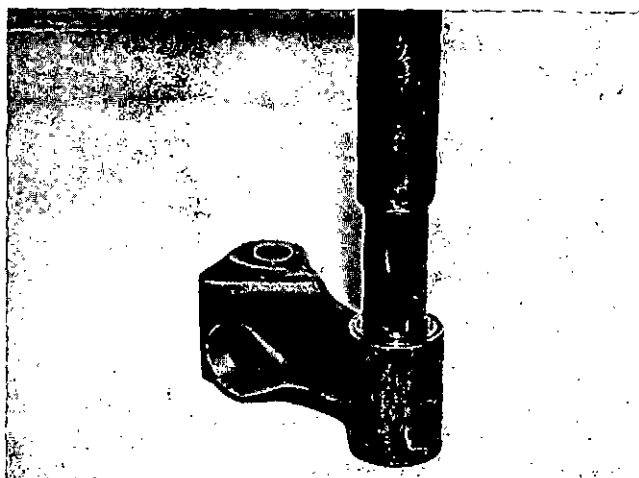

Fig. 4-21 (N10403). Remove The Bushing From The Cam Follower.
1. If the bushing in the cam follower lever is beyond the limit in Table 2, Remove the bushing. Use the ST-249 Lever Bushing Block and Mandrel to remove the bushing, Fig. 4-21. Use the 3376026 to remove the bushing in the injector cam follower lever.